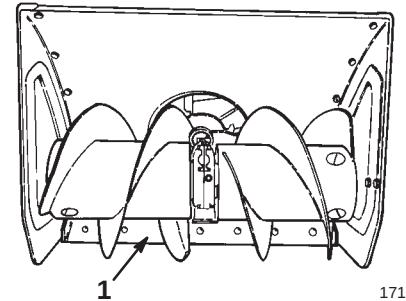

Figure 16
- Move the snowthrower to a flat surface and ensure that the scraper (Fig. 16) is parallel to the ground. If it is not, adjust the scraper; refer to Adjusting the Skids and the Scraper on page 21.